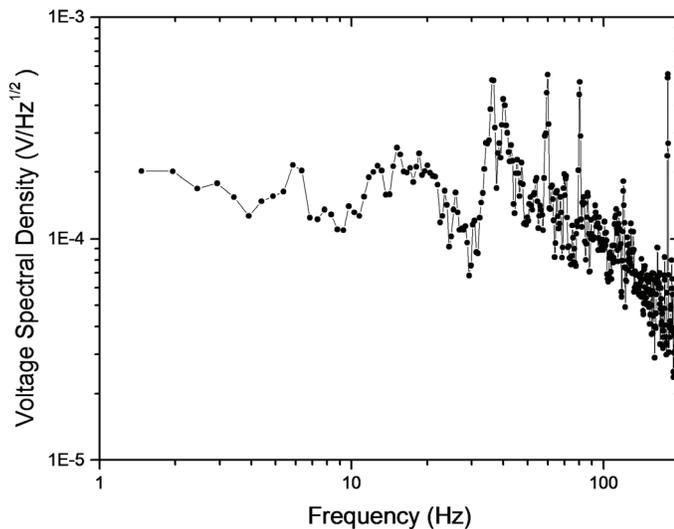

Fig. 3. Voltage spectral density after filtering
c) The use of a running-average filter, of time constant $\tau = 10$ ms, slows the time response, and also narrows the frequency bandwidth, of the signal. In the noise spectrum shown in Fig. 3, this shows up as a ‘rolling off’ in the frequency response above a corner frequency of $1/(2\pi\tau)$, or about 16 Hz in this case. This reduces the effects of the 60- and 180-Hz interference.